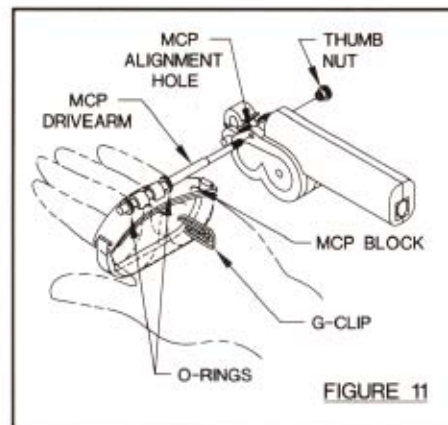

FIGURE 11
- 2 Insert MCP drivearm into MCP alignment hole and secure with plastic thumb nut see **Figure 11**.
- 3 Position MCP block on MCP drivearm with o-rings see **Figure 11**. Secure proximal phalanx to MCP block with straps.
NOTE: MCP block may be used with or without g-clip. Remove g-clip if not required see **Figure 11**.